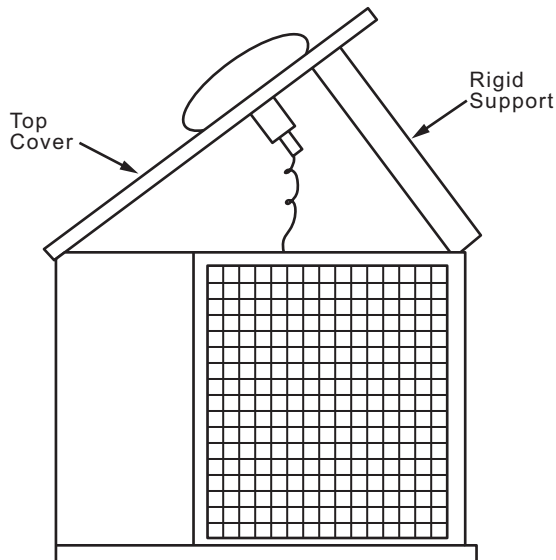

Fig. 39 — Pivot and Support Top Cover
2. Remove screws holding rear corner post and top cover in place. Pivot top cover up 12 to 18 inches (305 to 457 mm) and support with a rigid support. See Fig. 39.